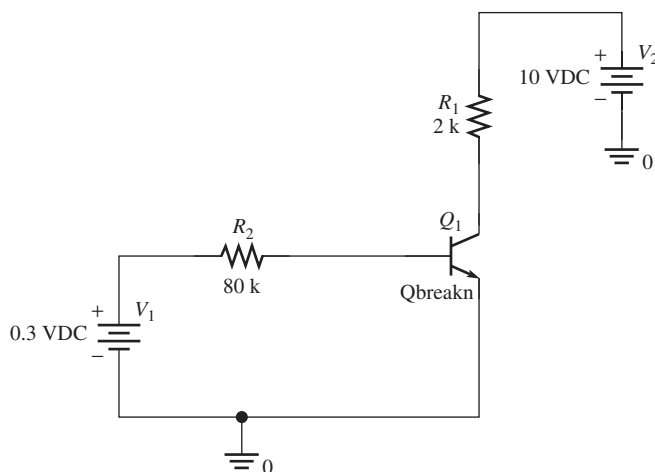

FIGURE 8.95 Placing the transistor.
- Place the transistor and set up the PSpice circuit as shown in Figure 8.95.